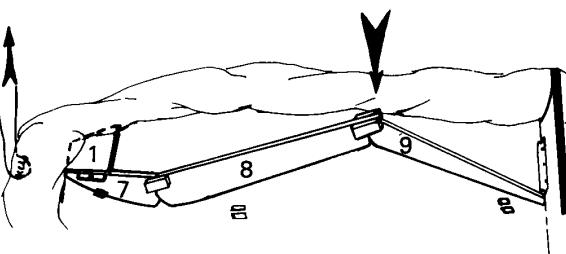
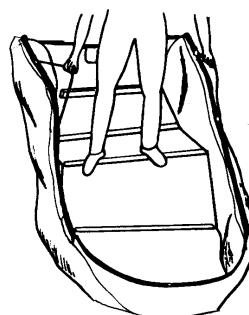

fig 3
fig 6
6. **Respecting the order : slide** element (2) against element (1), element (3) against element (2) then slide element (6) against the transom retaining batten (10) [fig 6], and position elements (4) and 5 as an apex. [fig.3]. IMPORTANT: Check the good position of the keel into its blocks.